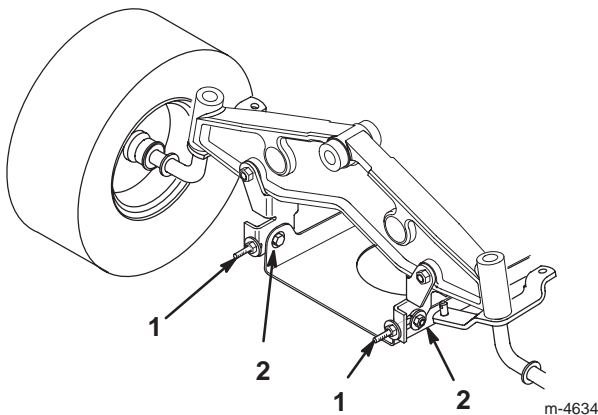

Figure 52
11. To adjust the front-to-rear blade slope, loosen the front pivot plate mounting bolts slightly (Fig. 52).
12. Rotate the locknuts on the eyebolts to change the adjustment (Fig. 52). To raise the front of the mower, tighten the eyebolt locknuts. To lower the front of the mower, loosen the eyebolt locknuts.
14. When the front-to-rear slope is correct, tighten the pivot plate mounting bolts (Fig. 52).